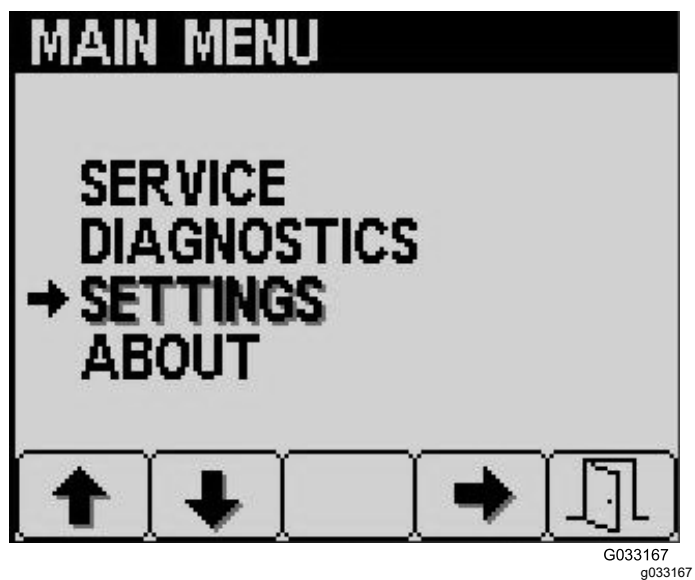
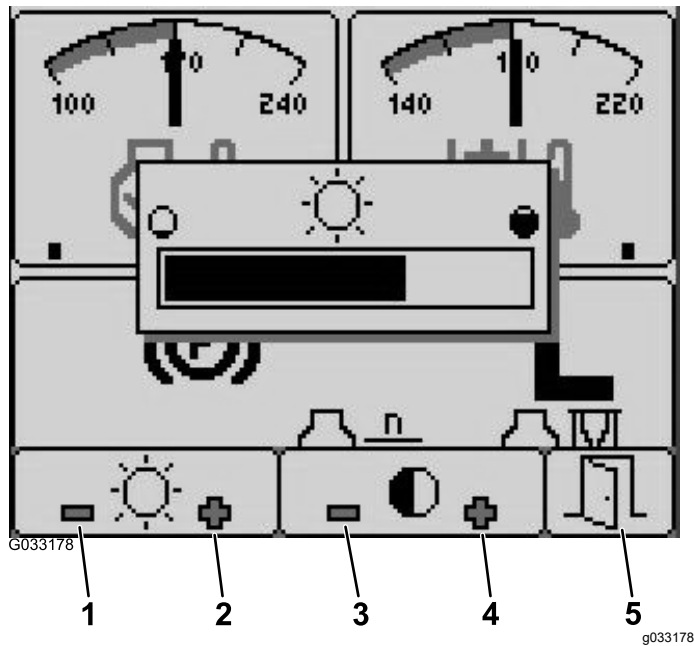

Figure 18
Figure 19
2. Scroll up or down to SERVICE in the main menu (Figure 18).
- Exit the menu by selecting the EXIT (door) button (Figure 18 or Figure 19).
- From the startup screen, press button 5 to access the brightness/contrast pop-up-menu bar (Figure 19).
- Press button 1 to decrease brightness, button 2 to increase brightness, button 3 to decrease contrast, and button 4 to increase contrast (Figure 19).
- When you have set your brightness/contrast, press button 5 to exit (Figure 19).